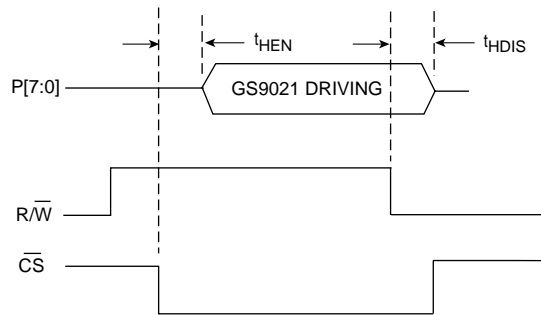

Fig. 8b HOSTIF Parallel Port Output Enable and Disable Times
- C) The GS9021 drives the  $P[7:0]$  bus when the  $R/\overline{W}$  pin is HIGH and the  $\overline{CS}$  pin is LOW. At all other times, the  $P[7:0]$  port is in a high impedance state. The host interface enable and disable times are shown in Figure 8b and are specified in the AC timing information. In this figure, the rising/falling edges of  $R/\overline{W}$  and  $\overline{CS}$  are not aligned to illustrate that the state of the  $P[7:0]$  I/Os is only a combinatorial function of the  $R/\overline{W}$  and  $\overline{CS}$  pins.